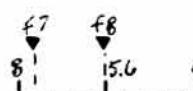

fig. 27-16
C > D (fig. 27-16) Rotate VR ⑥ counter-clockwise